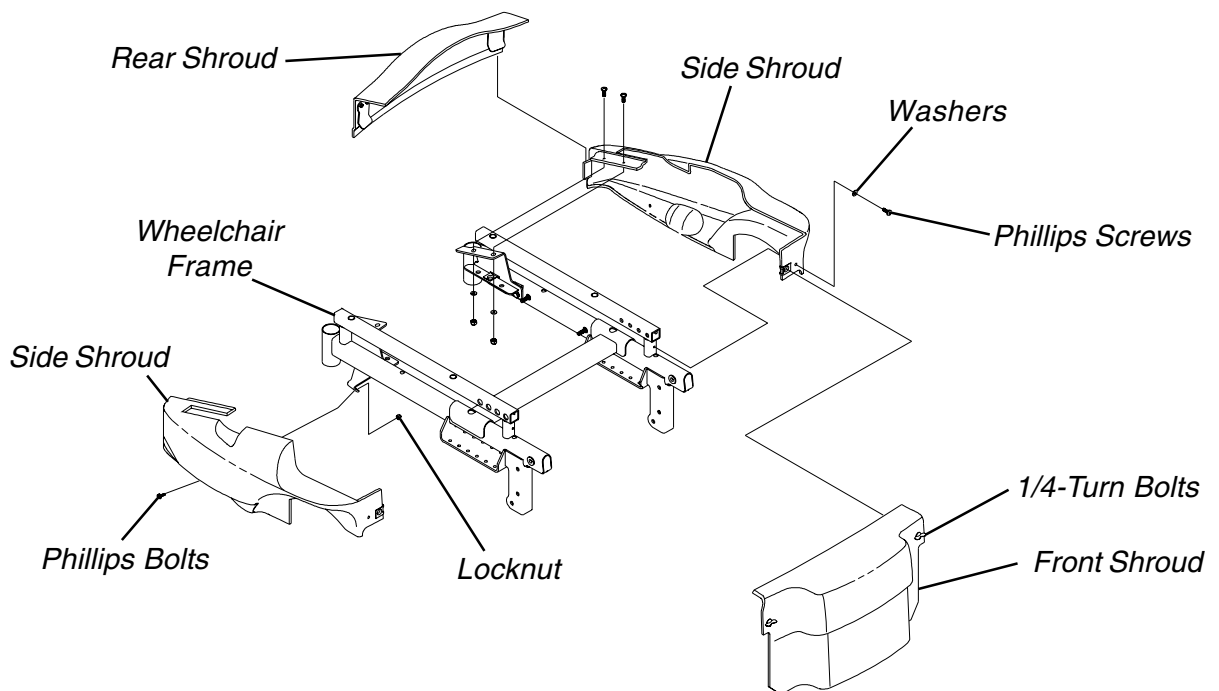

FIGURE 1 - REMOVING/INSTALLING SHROUDS - MWD WHEELCHAIRS
3. Perform one (1) of the following:
4. Remove the phillips screws and washers that secure side shroud to wheelchair frame. Refer to FIGURE 1 for phillips screw and washer locations.
5. Remove the phillips bolt and locknut that secure the side shroud to the wheelchair frame. Refer to FIGURE 1 for phillips bolt and locknut location.
3. Install the phillips bolt and locknut that secure the side shroud to the wheelchair frame and tighten securely. DO NOT OVERTIGHTEN. Refer to FIGURE 1 for phillips bolt and locknut location.
4. Install the phillips screws and washers that secure the side shroud to the wheelchair frame and tighten securely. DO NOT OVERTIGHTEN. Refer to FIGURE 1 for phillips screw and washer locations.
6. Perform one (1) of the following: